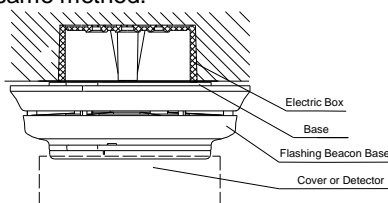

Fig. 2
- Installation schematic of the flashing beacon base is shown in Fig. 2.